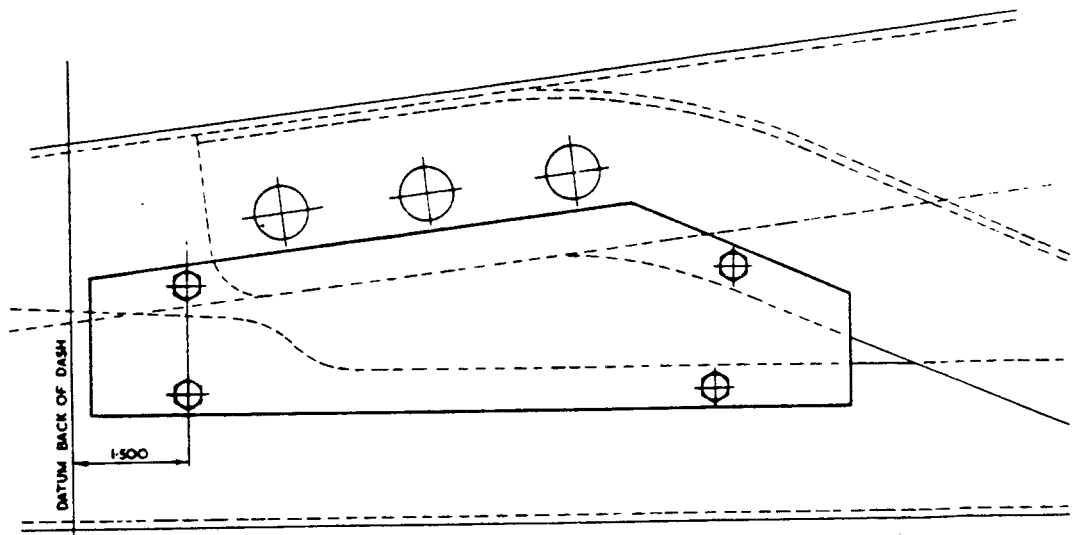

FIG. 1 FITTING OF UNDER-FRAME COVER PLATE.
1. Fit the under-frame cover plate (RF-6209) as shown in Fig. 1.